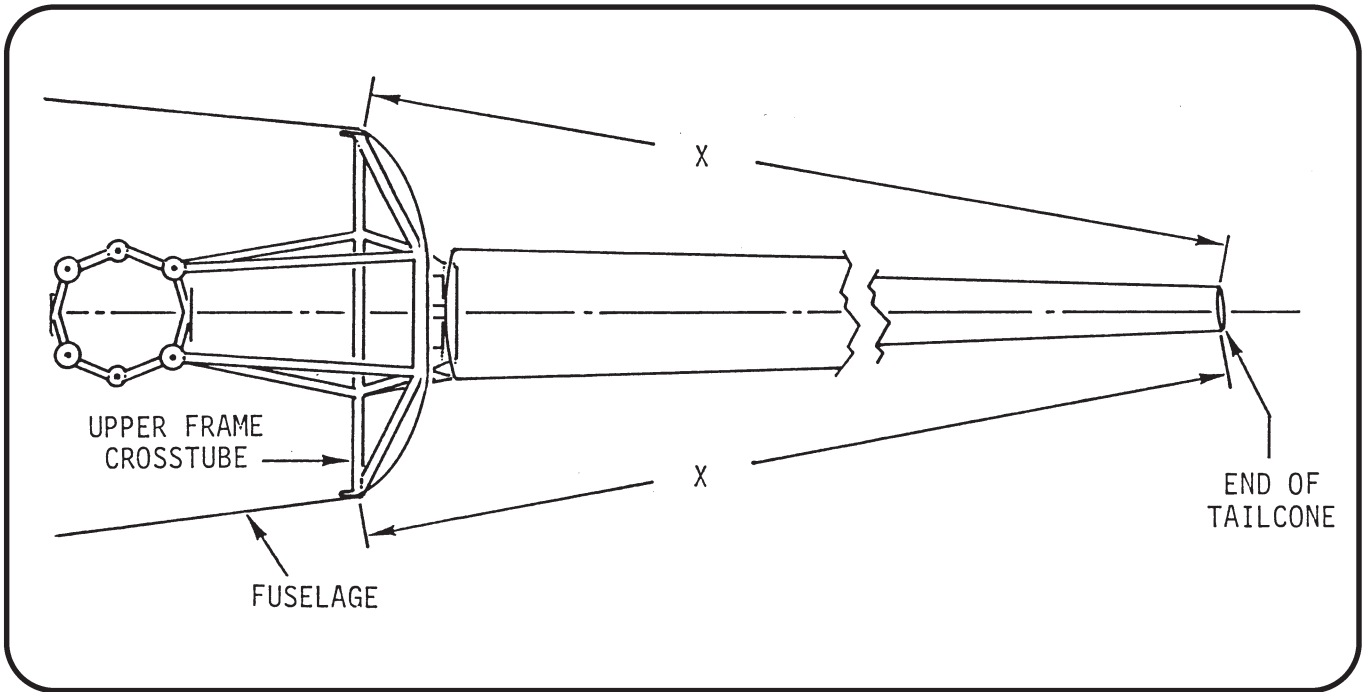

FIGURE 4-2B TAILCONE LATERAL CENTERING
4. Refer to Figure 4-2B. Measure from left and right lower frame vertical strut-to-upper frame attach points to aft end of tailcone. Center tailcone laterally until left and right measurements are equal on both sides.